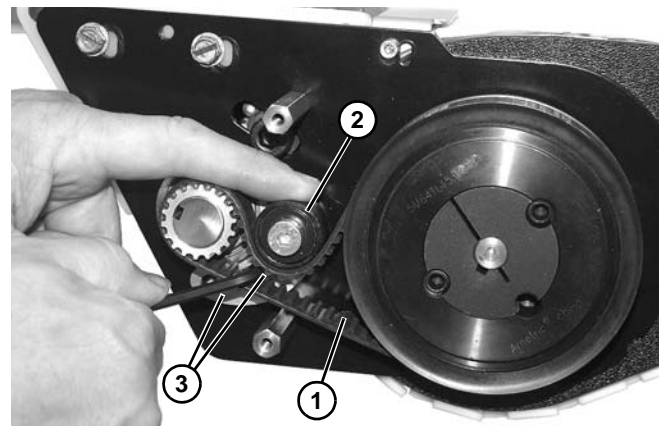

Figure 180
- On drive end, route and install belt (**Figure 180, item 1**) as shown. Press down on tensioner (**Figure 180, item 2**) and tighten two socket head screws (**Figure 180, item 3**).